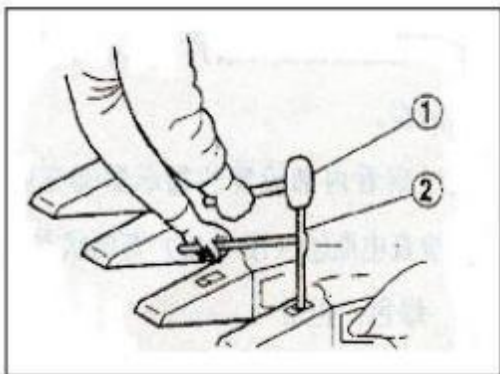

Fig 4-42
2. Replace the bucket teeth and remove the pins and lock washers with a hammer ① (Figure 4-42) and a punch ②.